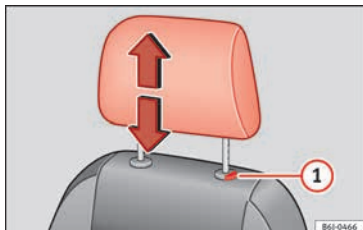

Fig. 141 Front head restraint: adjust or remove.
- Press catch **1** » **Fig. 141** and remove the head restraint.